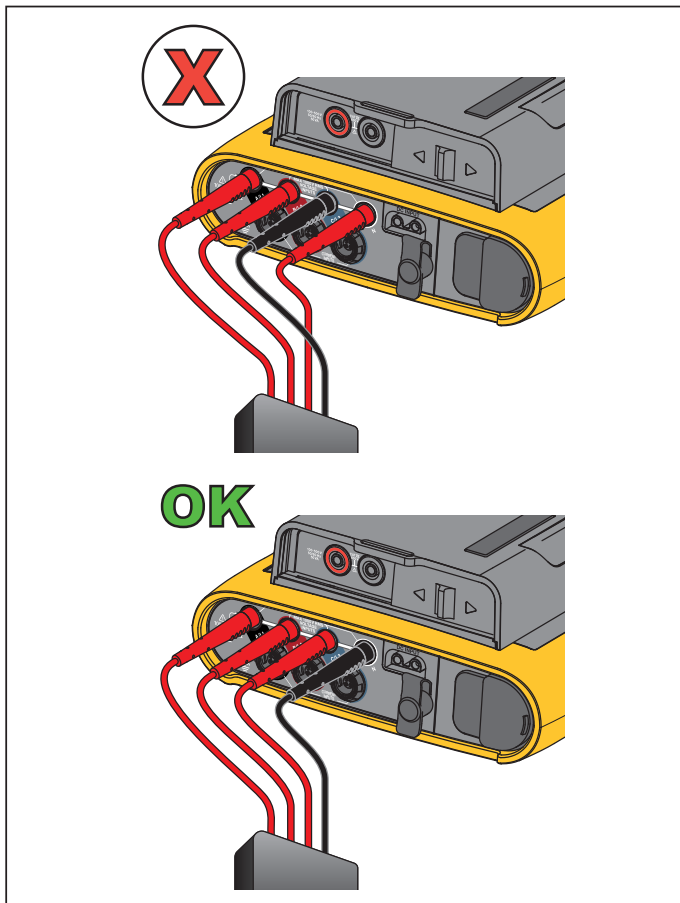

Figure 6. Measurement Connection to the Logger
6. See Figure 6 for measurement connection to the Logger.